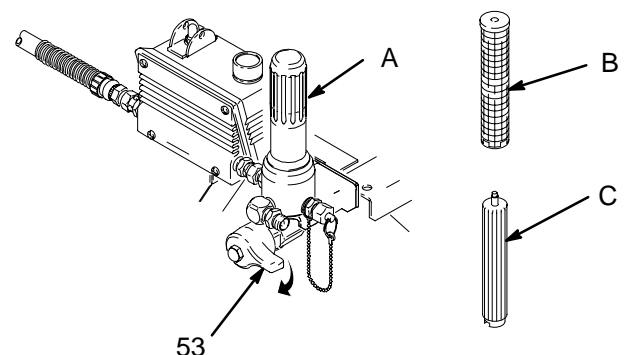

Fig. 4
2. Remove the filter bowl (A) and screen (B); see instruction manual 307273, supplied. Install the bowl and support (C), without the screen, to flush. Clean the screen separately. See Fig. 4.
3. Close the pressure drain valve (53). See Fig. 4.
NOTE: Steps 1 to 13 refer to Fig. 5 and Fig. 4.